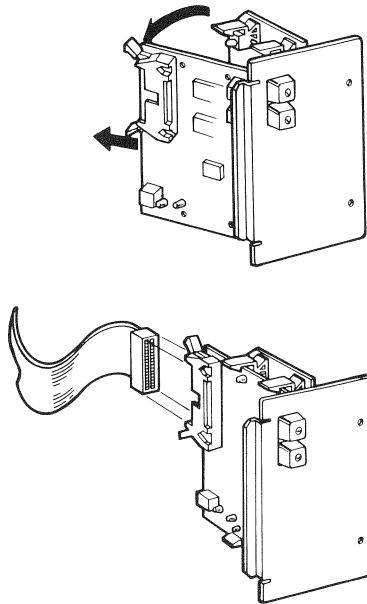

Figure 10-7 CPU Console Board Removal
2. Disconnect the ribbon cable from the CPU console board (Figure 10-7).